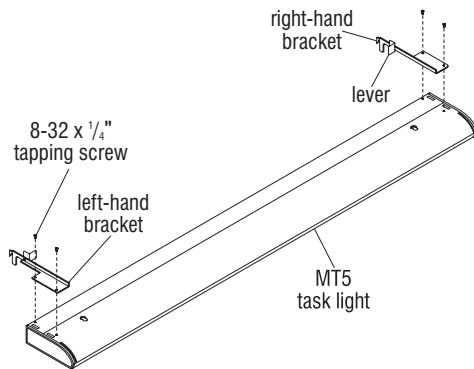

Figure 8
1. Reference Figure 8 below to identify the left- and right-hand brackets, as well as four 8-32 x 1/4" tapping screws within the bracket kit (Figure 8).
2. One side at a time, position the appropriate bracket as illustrated (lever toward the center of the fixture) to the task light unit and align the mounting holes in the bracket with the holes on the top of the task light unit. Secure each bracket using two 8-32 x 1/4" tapping screws (Figure 8).